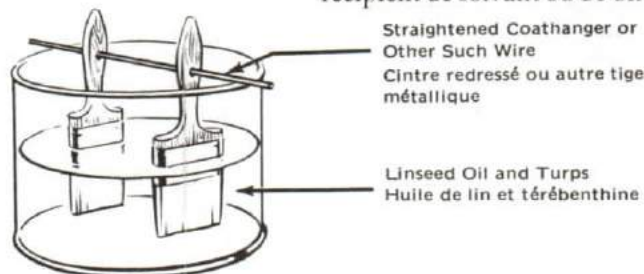

Figure 9-8
33. When a paint brush or roller is going to be set aside during a noon hour or a similar period of time, it must be stowed in a solvent or thinner for the type of material being used. See Figure 9-8.